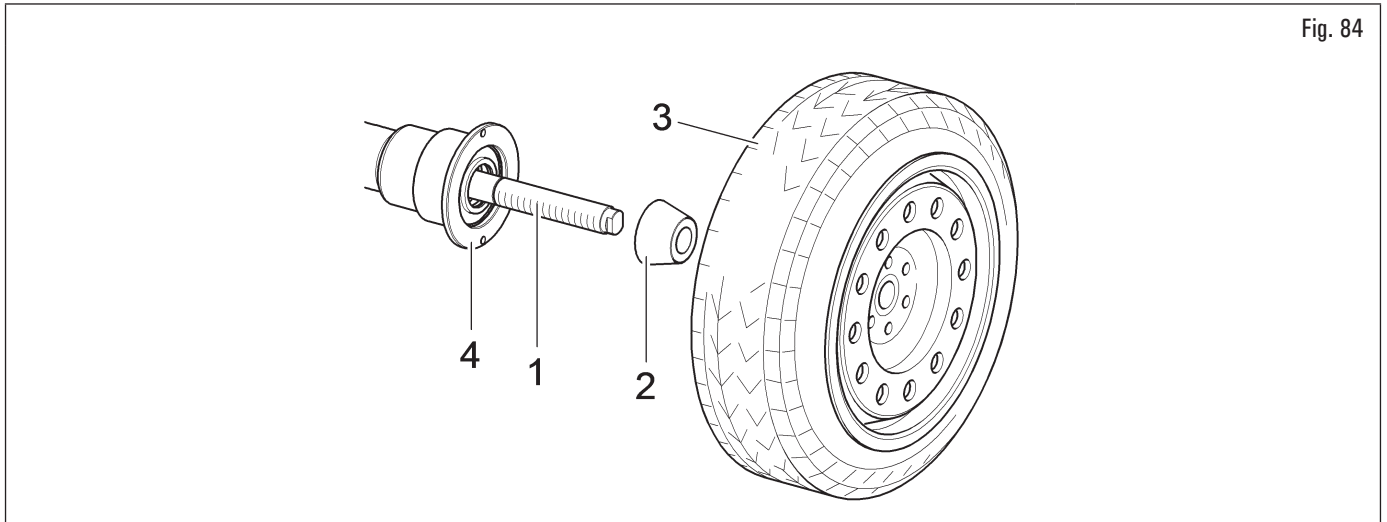

Fig. 84
1. Remove any type of foreign body from the wheel (Fig. 84 ref. 3): already-existing weights, stones and mud, and make sure the chuck (Fig. 84 ref. 1) and the rim centring area are clean before fitting the wheel on the chuck;
2. carefully choose the cone (Fig. 84 ref. 2) most suitable for the wheel to be balanced. These accessories must be selected according to the shape of the rim. Carefully position the wheel (Fig. 84 ref. 3), fitting the cone (Fig. 84 ref. 2) on the chuck (Fig. 84 ref. 1) (otherwise this could seize) until this rests against the support flange (Fig. 84 ref. 4);